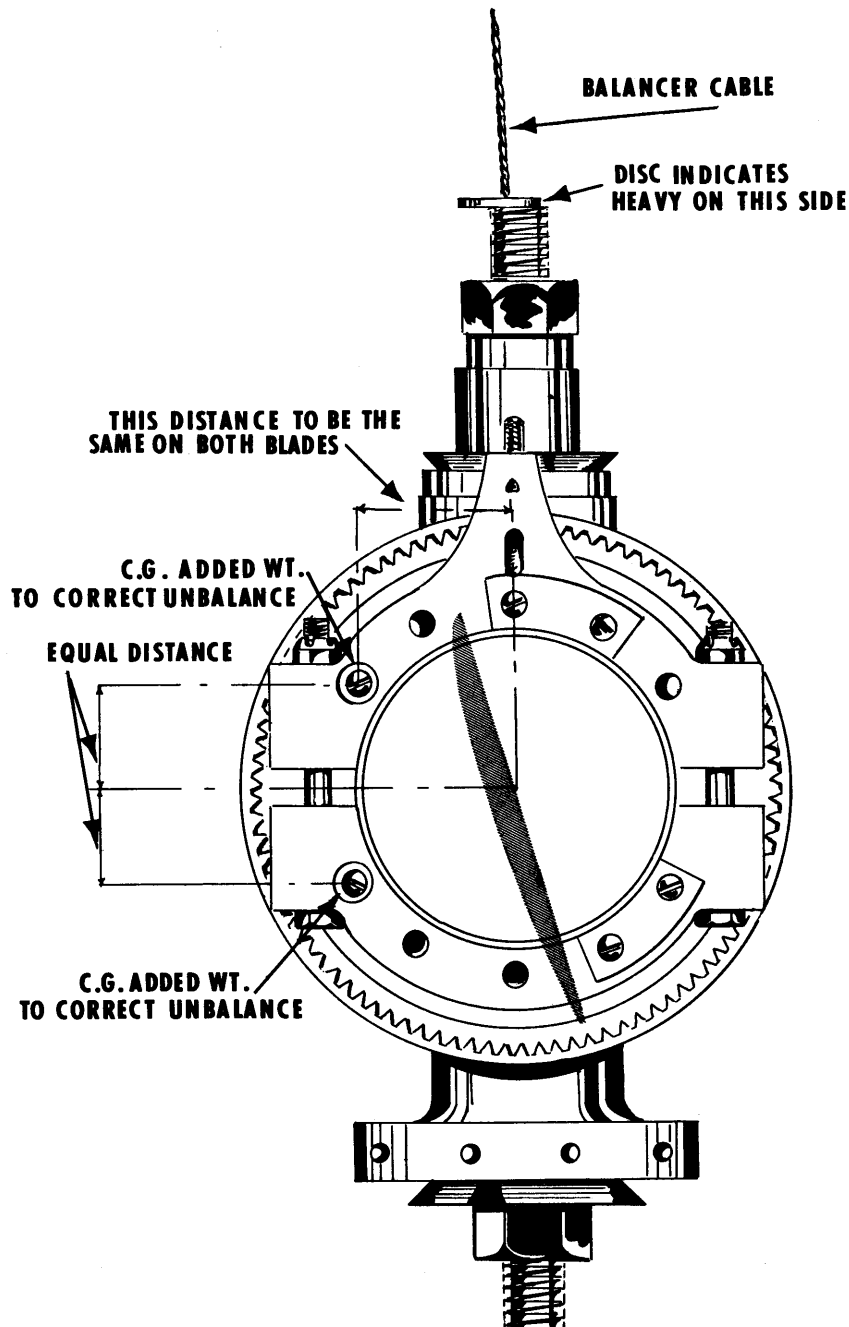

Figure 8. Secondary Balance Correction
8. To correct sideways unbalance in the secondary position in a manner that will not affect the primary balance, add an equal amount of lead in 4 places on the same side of the hub, 2 on each blade as shown in Figure 8. Where only a small correction is required, 4 screws without any lead or plates may be used. It would also be permissible to use several AN960-416 washers on each screw (the same quantity on each).